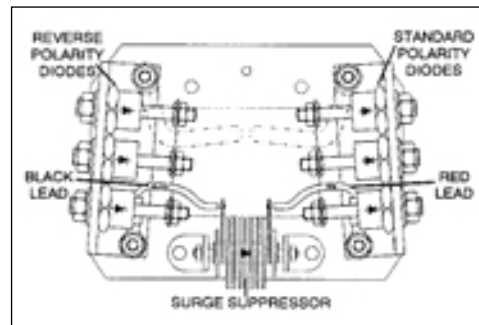

Figure 6-24
**CAUTION** Three forward polarity and three reverse polarity diodes are used. Be sure you have the correct part installed in the correct location. The surge suppressor is polarized. Observe polarity markings when changing the surge suppressor (figure 6-24).